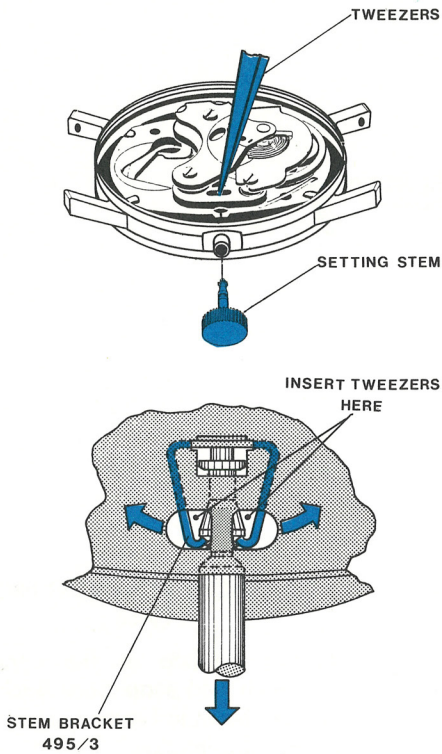

FIGURE 3
- D. Release the Crown and Stem Assembly by spreading both sides of the Stem Bracket with tweezers while pulling the Stem out of the Case (see Figure 3).